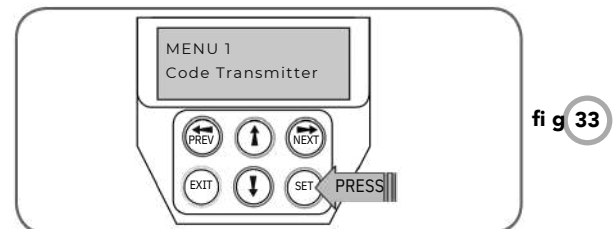

fig 33
1. Press NEXT to navigate to the Menu 1 (**Fig. 33**).